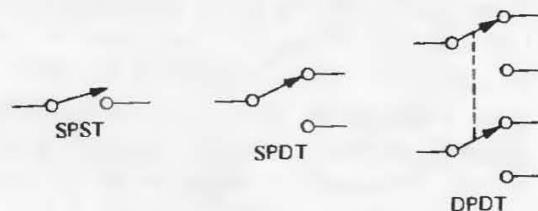

Figure 1.98. Fundamental switch types.
*Toggle switches.* The simple toggle switch is available in various configurations, depending on the number of poles; Figure 1.98 shows the usual ones (SPDT